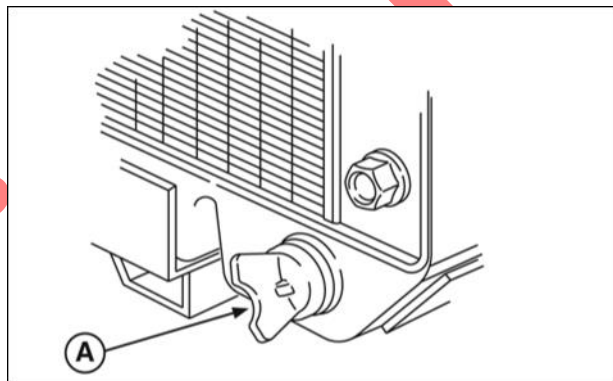

Figure 1
1. Remove radiator cap. Remove radiator drain plug (A, Figure 1) and drain the system.